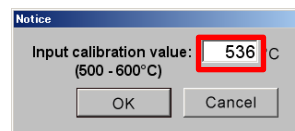
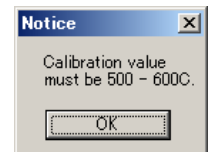
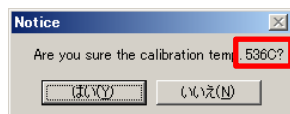

Fig. 7.1
Fig. 7.2
Fig. 8.1
- 7.1 Enter temperature calibration value and hit **[OK]** button (an example in Fig. 7.1 shows 536). Numeric values outside of 500~600 range are not accepted, or a window shown in Fig. 7.2 will be displayed.
The same number is correctly entered in windows shown in Figs. 7.1 and 7.3, a dialog box shown in Fig. 8.1 is displayed. Confirm that the value framed in red is correct, then click **[Yes]** button. This will return to the window shown in Fig. 7.1.